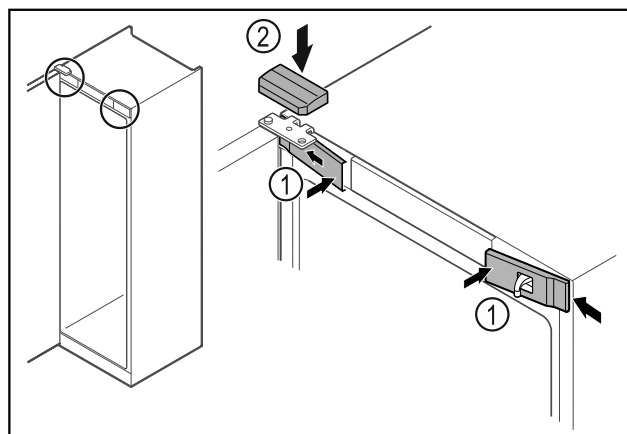

Fig. 47
- Hook in the front covers Fig. 47 (1) on the side and snap them into place.
- Snap on the top cover Fig. 47 (2) from above.